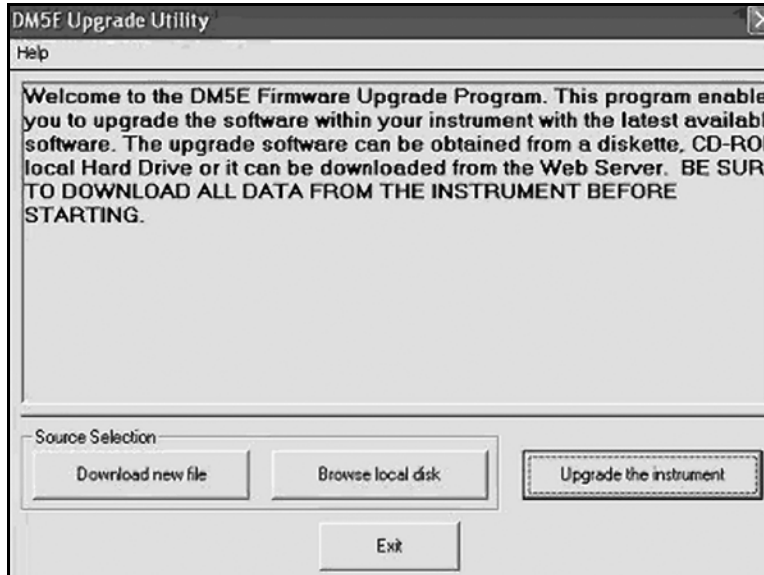

Figure 22: Changing Parameter Settings
2. Run the *Upgrade Utility Program* from the Program Menu on your PC. For a typical MS Windows operating system, this is accomplished by clicking the START button, clicking the RUN button, selecting PROGRAMS and then selecting the DM5E Upgrade Utility (see *Figure 22 on page 68*).